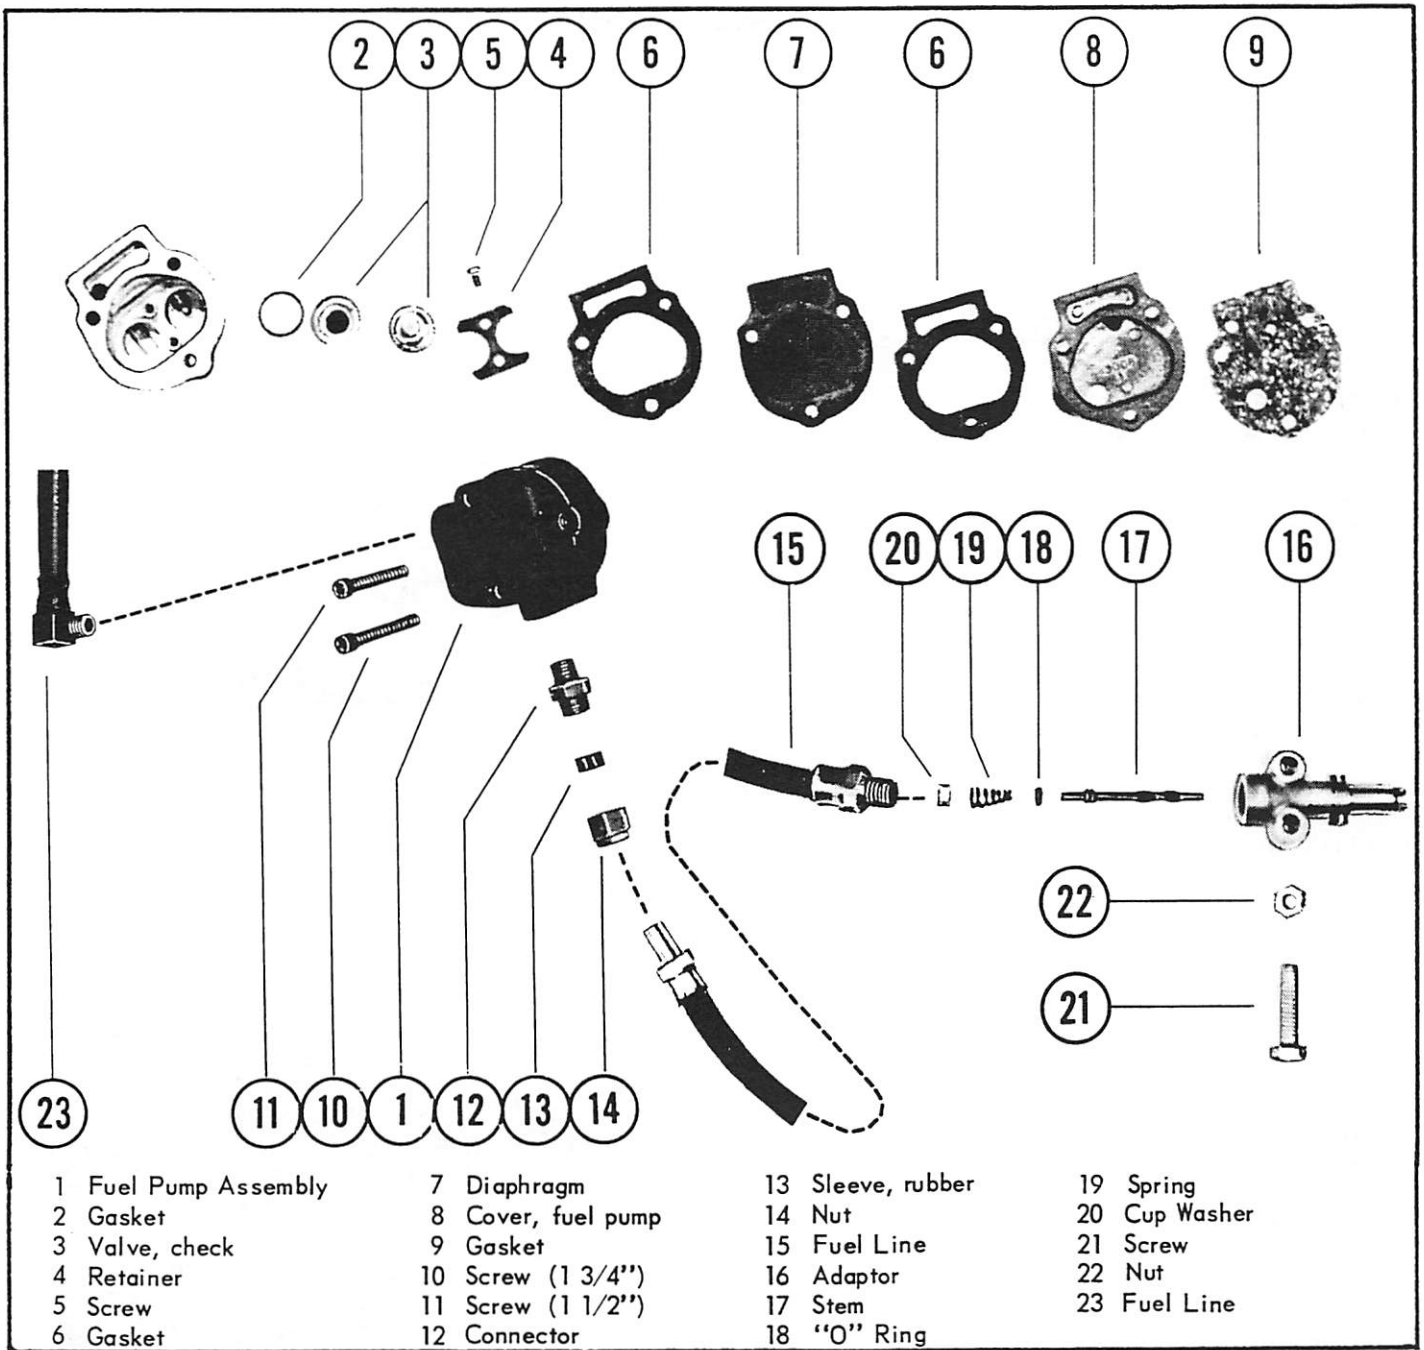

Figure 10. Vacuum Fuel Pump Exploded View
C. VACUUM FUEL SYSTEM PUMP (Figure 10)
- a. First, inspect all parts, making certain that all are usable, clean and ready for reassembly. (Figure 10)